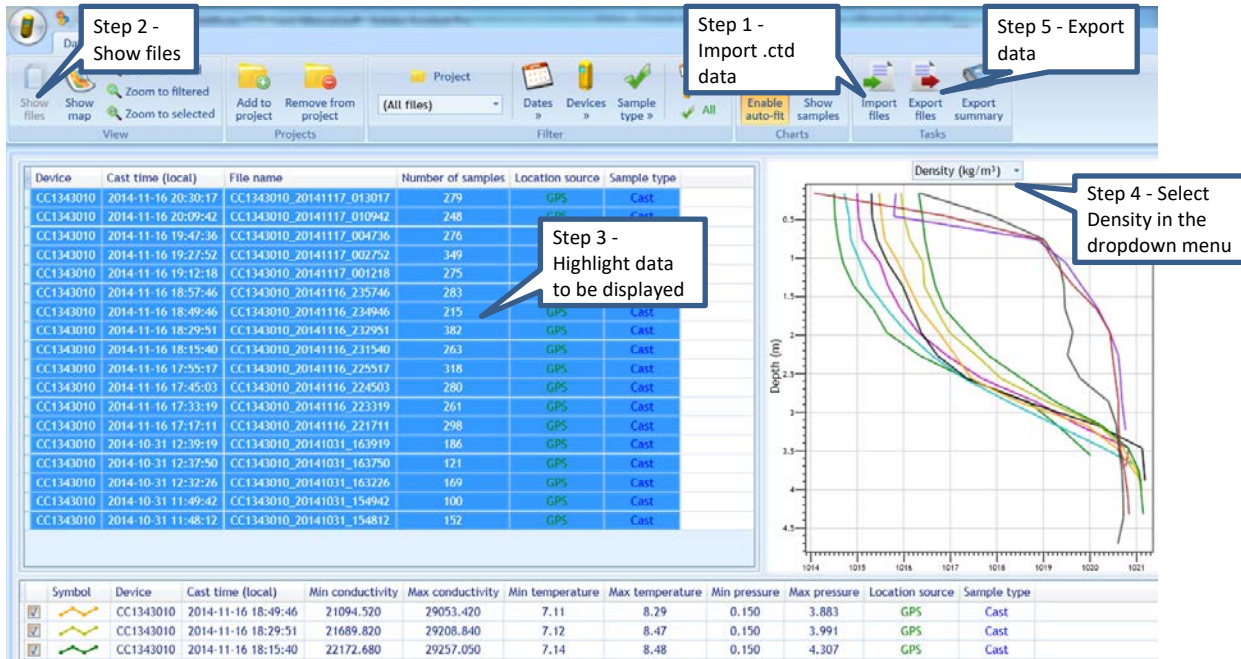
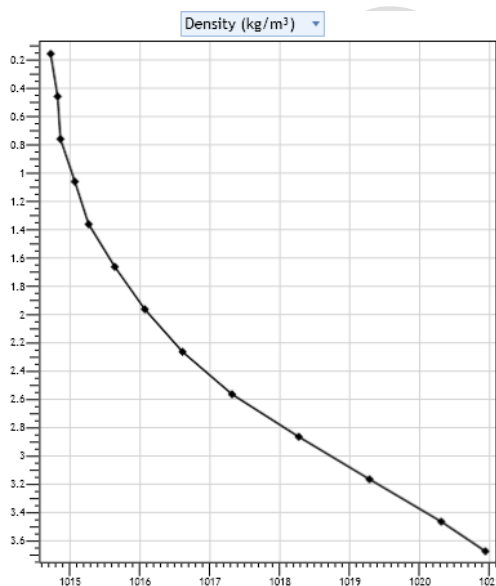
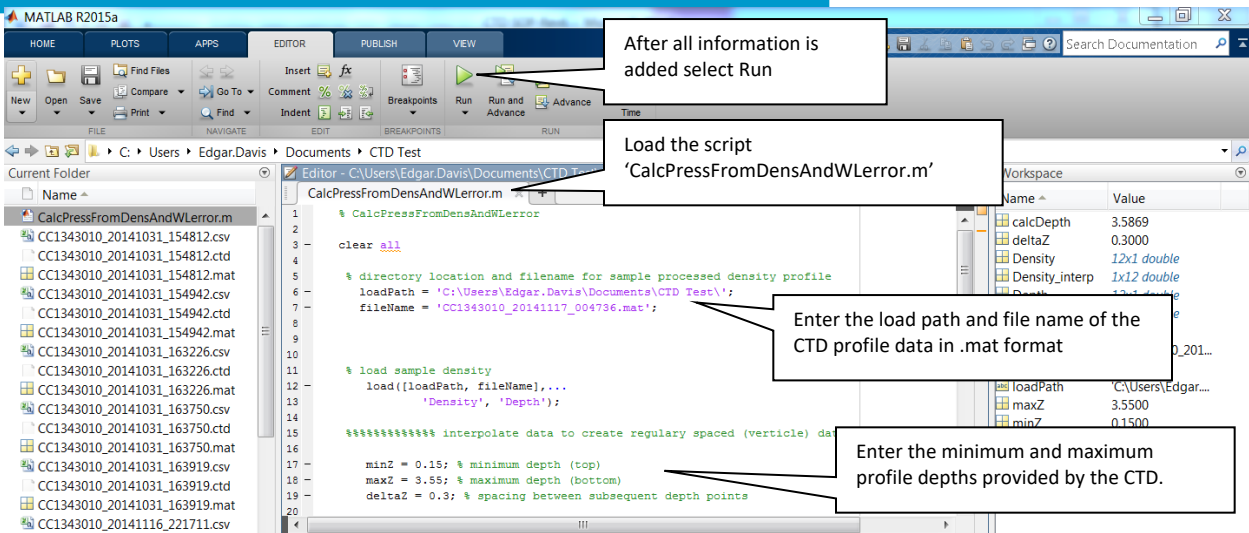

Figure 1 CastAway CTD software output
Figure 3 One of the density profiles from figure 1
Figure 1A MATLAB Editor
6. **Detailed Sub-Processes/Checklists:** Ensure that the profiles are for a single location by reviewing the accompanying log documentation. To import, view and export density profiles open the CastAway CTD software, click the Import files icon (step 1 in figure 1) and in the "Open" window select the .ctd file type, highlight the desired files, click Open and
Compare the calculated depth for each cast to the depths derived by the CTD. If the difference is greater than 1 cm then other alternative sensors such as dual orifice pressure, microwave, or acoustic should be considered for water level measurements rather than a single orifice pressure gauge. As an example, figures 3 and 4 are one of the density profiles and its .cvs formatted data from figure 1. The value 3.45 decibars is selected as the deepest common pressure because many of the other profiles include the same pressure. Using the accompanying density $1020.3131 \text{ Kg}/\text{m}^3$, depth is calculated as:
Review the density profiles displayed by the CastAway CTD software (figure 1) and select those with the greatest density variations for further investigation. Using MATLAB, load the script 'CalcPressFromDensAndWLError.m'. Select a CTD profile data file of interest in .mat format and enter its load path and file name into the script (figure 1A). Enter the minimum and maximum depths measured by the CTD. The minimum depth is generally 0.15 m, but in some instances the data may have noise near the surface so select a minimum depth that is just below the noise. After all information has been entered select Run. The true depth, calculated depth, and their difference, all in meters, will be found in the Command Window (figure 2A). If the difference is greater than 1 cm, then a single orifice pressure sensor should not be considered for water level measurements. Perform the same steps for all the profiles selected.